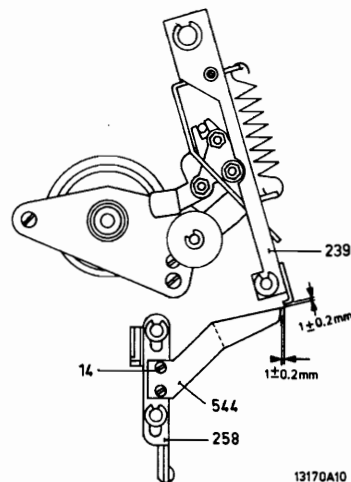

Fig. III-10
- Check the distance between bracket 544 and pressure roller lever 239 as shown in Fig. III-10.
- Within the 1 mm pre-travel of the eject key (Fig. III-10) SK15 must be closed.